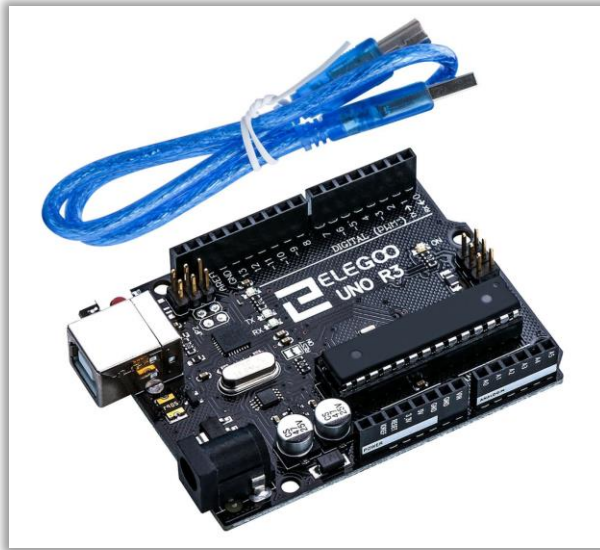

Figure 1: Arduino UNO (Amazon.com)
- In order to flash the bootloader on to the Melzi board, an Arduino UNO must be used. See below for a link to purchase an Arduino UNO (Figure 1).